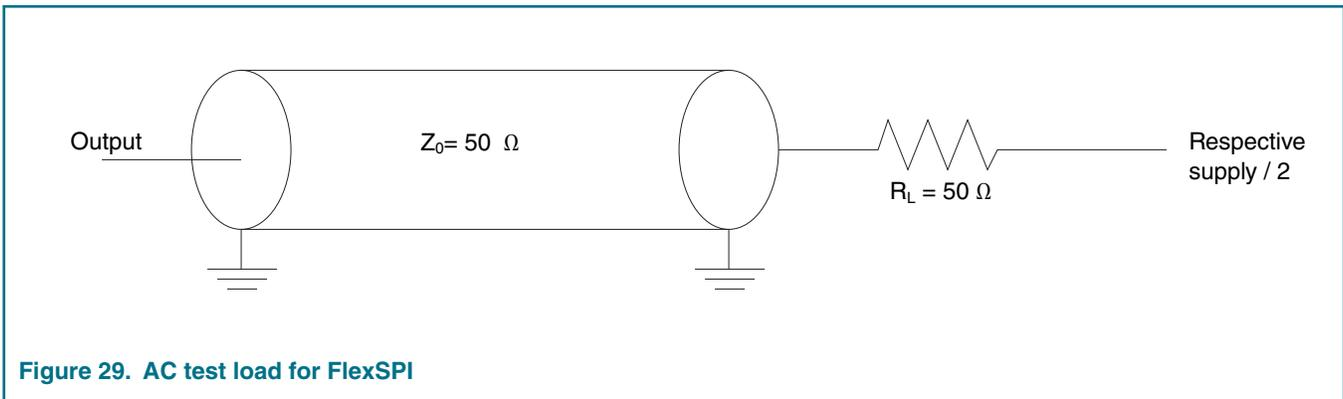
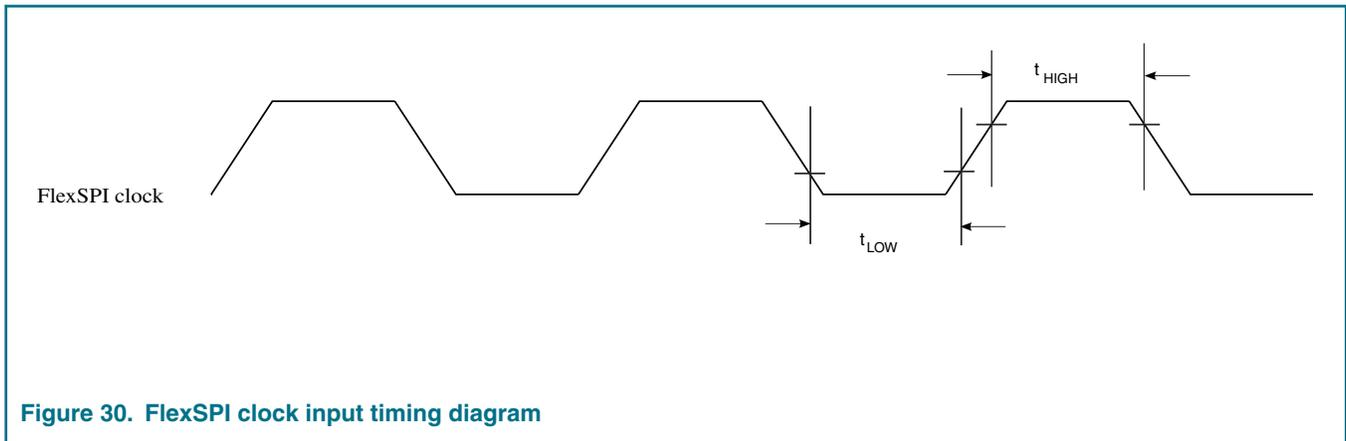
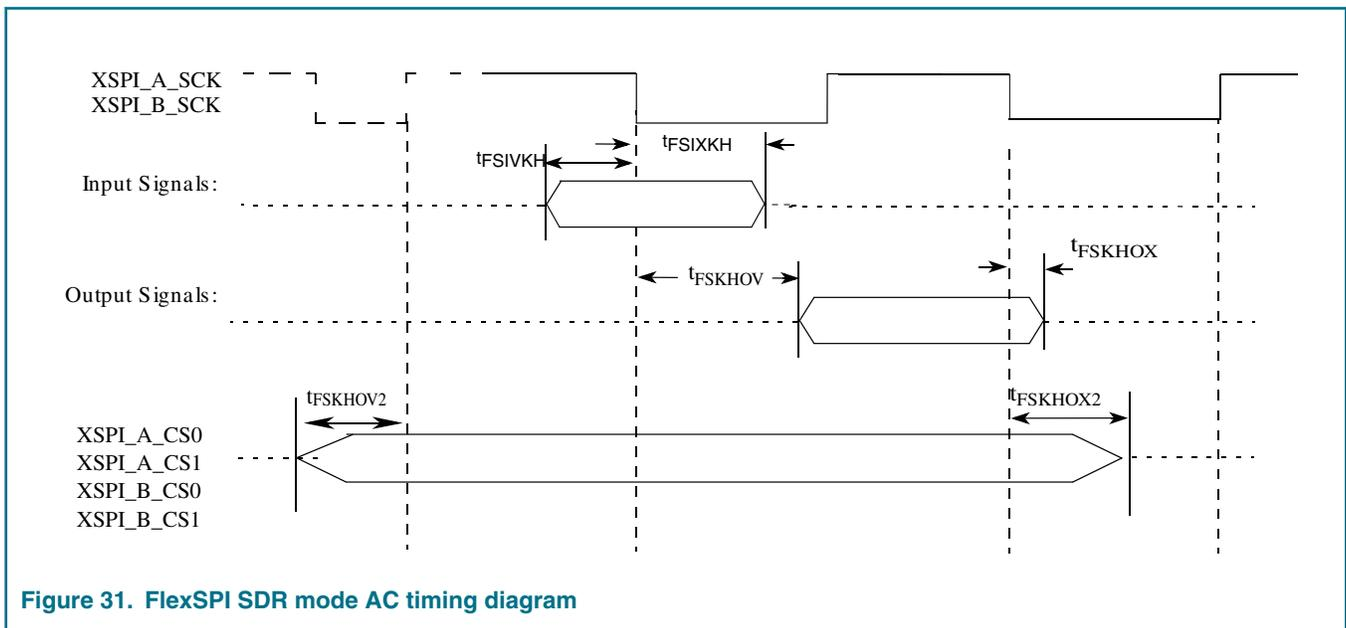
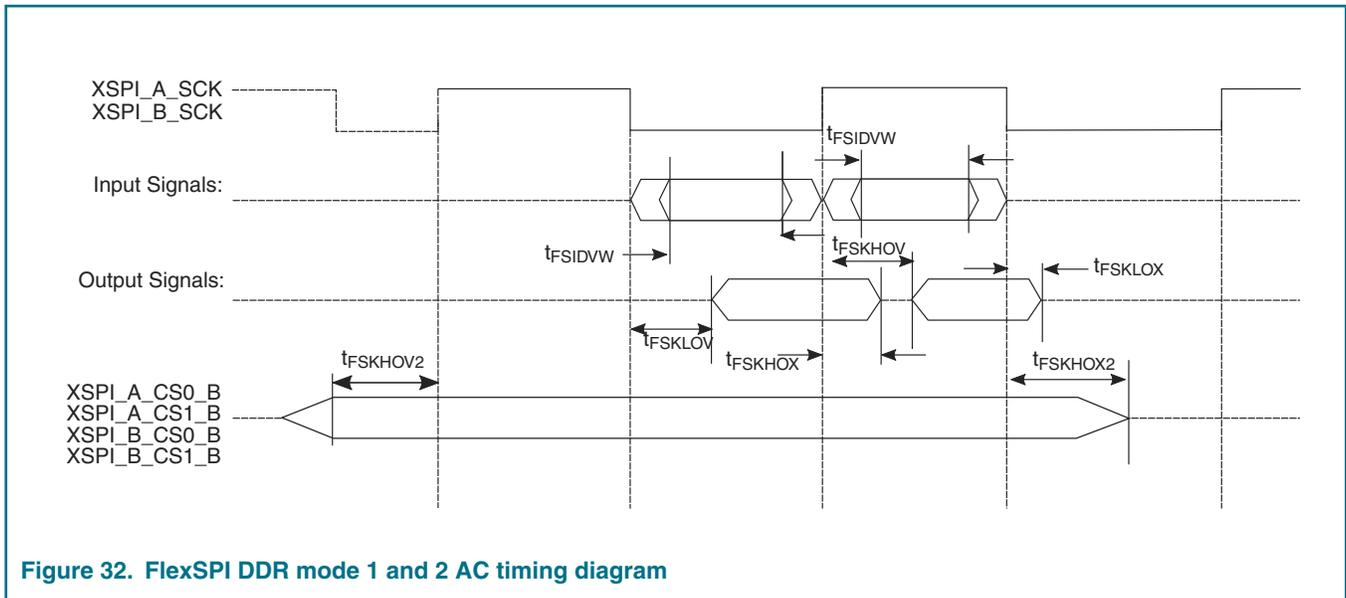

Figure 29. AC test load for FlexSPI
Figure 30. FlexSPI clock input timing diagram
Figure 31. FlexSPI SDR mode AC timing diagram
Figure 32. FlexSPI DDR mode 1 and 2 AC timing diagram
2. See Figure 29. on page 109.
3. See Figure 30. on page 110.
4. See Figure 31. on page 110.
1. Refer Flash Control Register 1 (FLSHxyCR1) in QorIQ LS1028ARM for more details, where x: A or B, y: 1 or 2. 2. See Figure 29 . on page 109. 3. See Figure 30 . on page 110. 4. See Figure 31 . on page 110.
1. Refer Flash Control Register 1 (FLSHxyCR1) in QorIQ LS1028ARM for more details, where x: A or B, y: 1 or 2. 2. For DDR, Unit Interval (UI) is half of period. For example, 5 ns for 100 MHz 3. See Figure 29 . on page 109. 4. See Figure 30 . on page 110. 5. See Figure 32 . on page 111.
2. See Figure 29 on page 109.
3. See Figure 30 on page 110.
4. See Figure 32 on page 111.